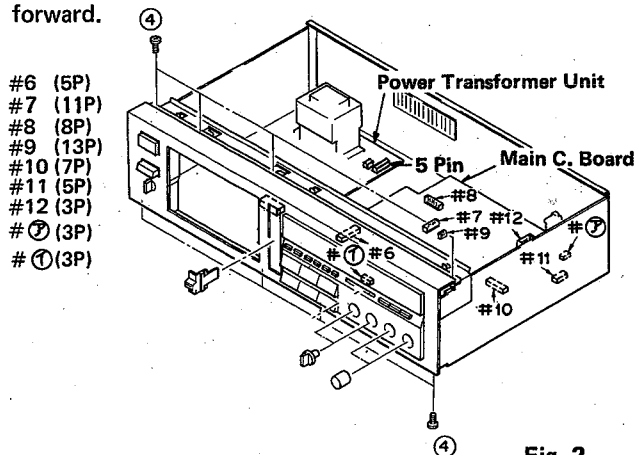

Fig. 2
- Remove 5 knobs in Fig. 2.
- Detach 9 connectors (#6 ~ #12, ⑦, ①).
- Remove 8 screws (④) in Fig. 2 and pull the front panel forward.